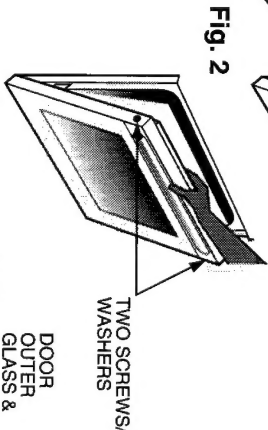

Fig. 2
2. Grip inner door panel and handle/outer glass assembly. Remove two screws and fibre washers (put to one side) as shown in Fig. 2.